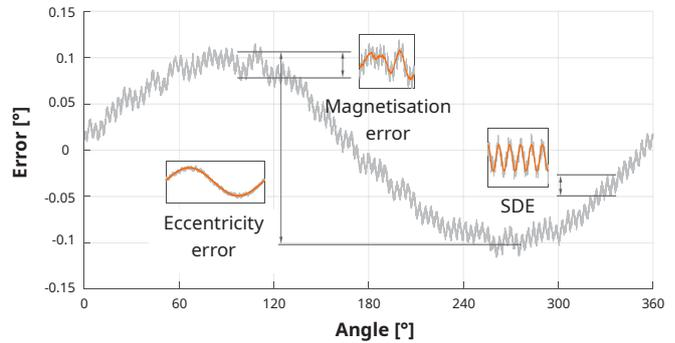
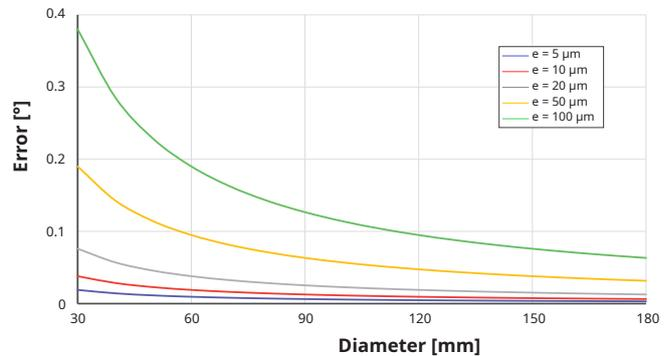

Fig. 1. Typical accuracy error plot.
Fig. 4. Influence of installation eccentricity on accuracy.
The accuracy of the ring encoder measurement is influenced by **encoder accuracy errors** and **installation-dependent errors**. In order to evaluate the total accuracy, each of the significant errors must be considered. Fig. 1 shows a typical accuracy error plot with marked particular influences.
**Fig. 1 to Fig. 4 are for representation purpose only.**
Eccentricity can be caused by the misalignment of the ring's center towards the rotational axis, as can be seen on Fig. 4.